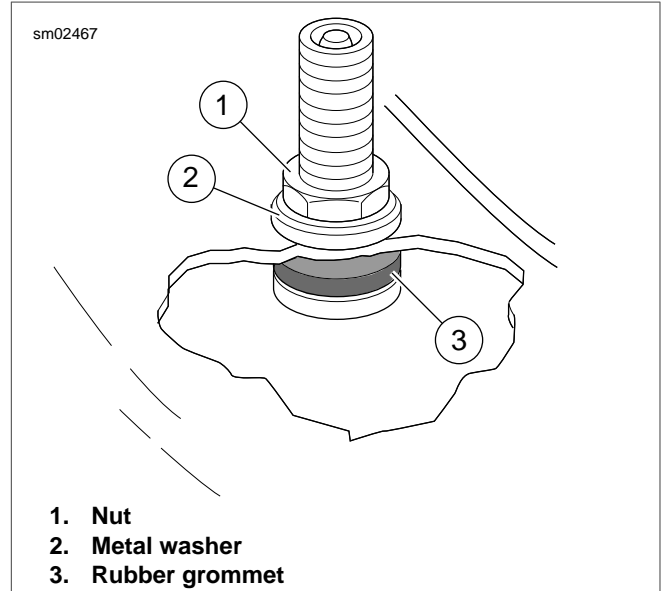

Figure 2-81. Tubeless Tire Valve Stem
1. See Figure 2-81. On tubeless wheels, damaged or leaking valve stems must be replaced. Install rubber grommet (3) on valve stem.
3. Install metal washer (2).